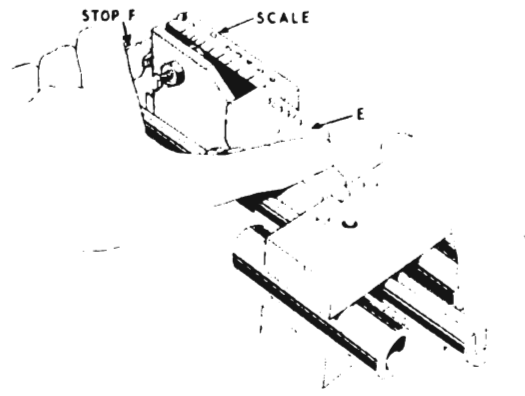
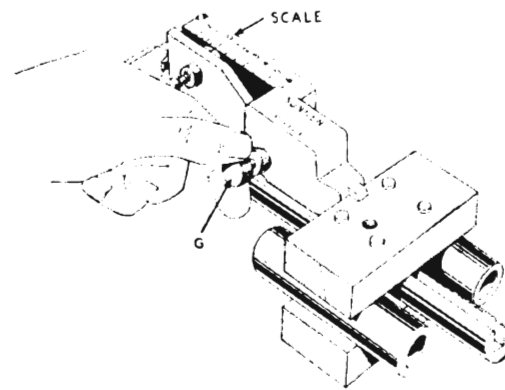

Fig. 21
Fig. 22
3. Hold gauge as shown in Fig. 21. With index finger of left hand on stop F and thumb on E, slide part E back with thumb until setting fixture becomes snug in position shown. Remove hand from setting fixture then tighten nut G as indicated in Fig. 22 and remove setting fixture.